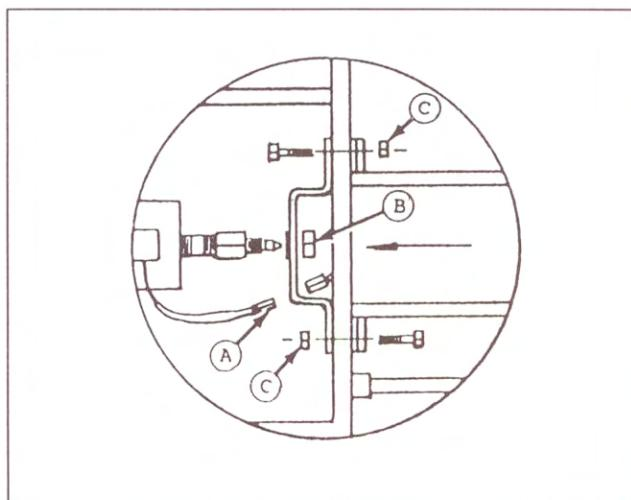

Figure 4.3.2
3. Unplug wire (A) at the glo-bar. Remove nut (B) and slide control assembly back. Unscrew bolts (C) fastening the orifice bracket to the control box, and pull out burner housing from tube (see Figure 4.3.2). Pull burner housing off fixed bolts, rotate counterclockwise 1/4 turn and remove.